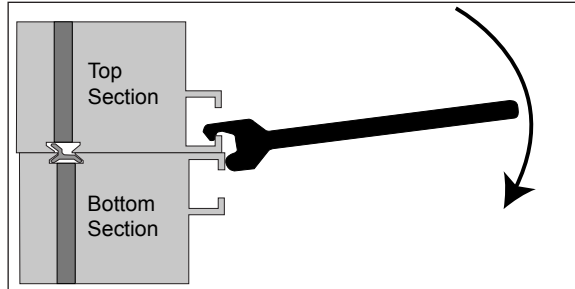

Figure 5: Aligning Display Sections with Splice Tool
5. Starting at one end of the display, use the splice tool to draw the top section into the bottom until the splice key is fully engaged, as shown in **Figure 5**.